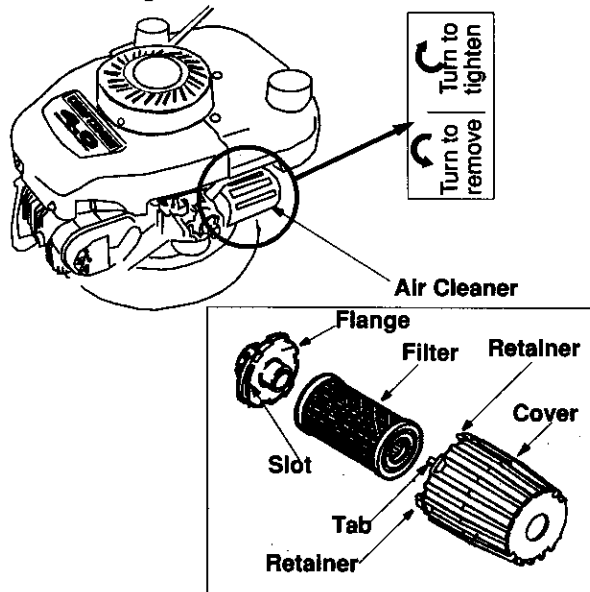

Figure 13
- Turn air filter cover counterclockwise and remove the cover and filter from the flange. See Figure 13. Discard filter.
- Place the cover and the filter against flange with tab on the cover inserted into lower left corner of slot in flange. See Figure 13.
- Push cover firmly against flange and turn it clockwise as far as it will go. Make sure that the retainers are locked around the flange. See Figure 13.